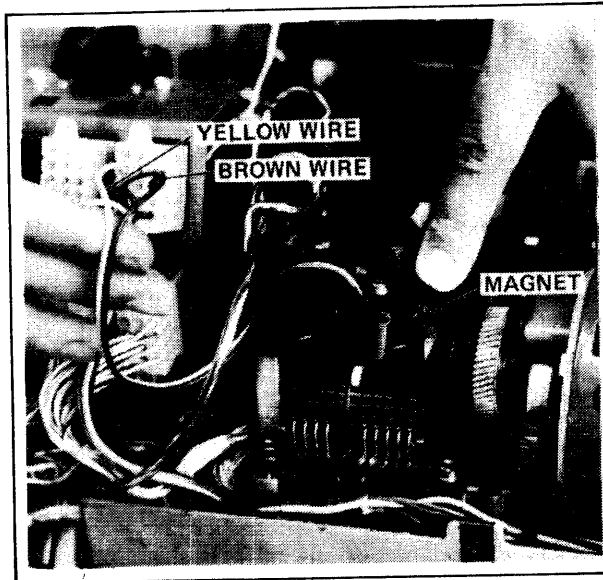

Figure A-7. Distributor Trip Magnet
- b. Disconnect brown wire shown in figure A-7 from plastic connector. Connect this brown wire to terminal L2 on mode switch. (Brown wire will have to be extended.)